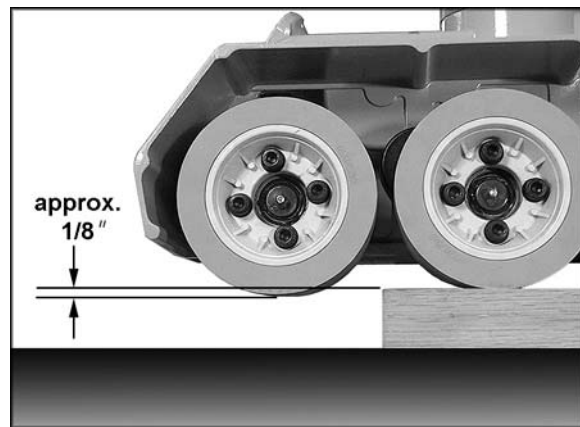

Figure 17
6. When used in horizontal position, the stock feeder should be adjusted for height so that the distance between the table and the feed rollers is approximately 1/8" (3mm) less than the thickness of the workpiece. See Figure 17.
- When mounting the Stock Feeder in edgewise position, keep in mind the spring tension of the rollers. The distance between the shaper fence and the feed rollers should be approximately $1/8''$ (3mm) less than the thickness of the workpiece (refer to Figure 17).